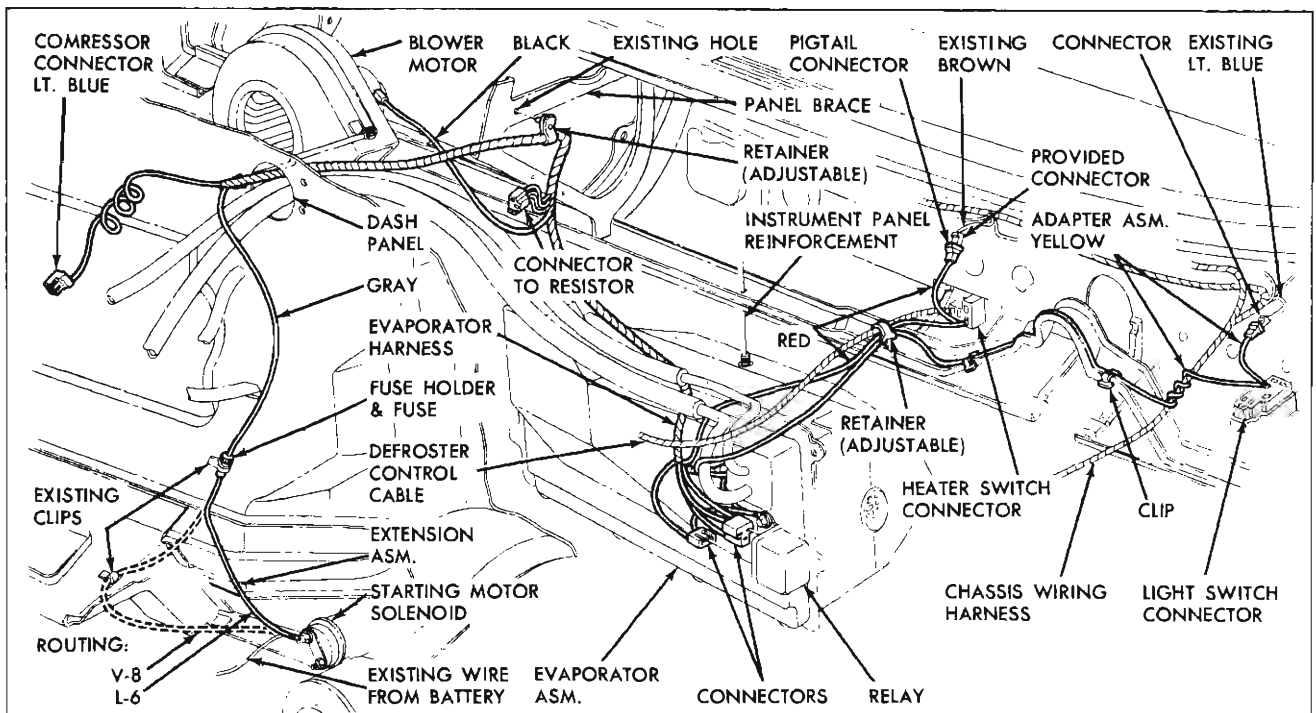

Fig. 18—Underdash Wiring—Custom System
6. Disconnect wiring connectors (see Figure 18) as necessary and remove the evaporator unit from the vehicle. Remove the duct-to-case screw.